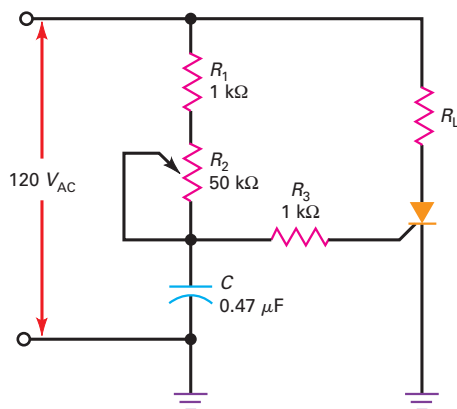

Figure 40-25
- 40.5** The resistor R_2 in Fig. 40-25 is set to $4.6\ \text{k}\Omega$. What are the approximate firing and conduction angles for this circuit? How much ac voltage is across C ?
- 40.6** Using Fig. 40-25, when adjusting R_2 , what are the minimum and maximum firing angle values?
- 40.7** What are the minimum and maximum conduction angles of the SCR in Fig. 40-25?